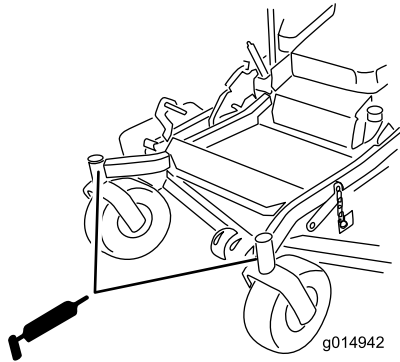

Figure 43
- Install the hex plug and dust cap (Figure 43).
- Grease the caster-wheel bearings (Figure 43).